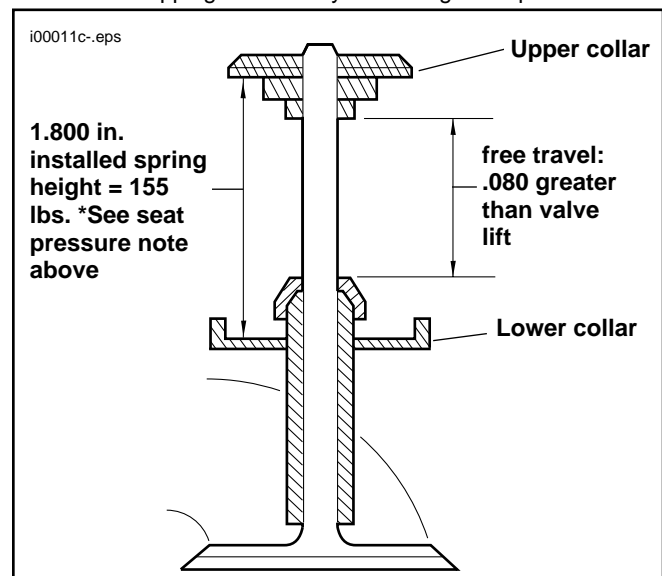

Figure 1. Valve Free Travel Check and Installed Valve Spring Height
- See Figure 1. Install lower valve spring collars, upper collars, and collar keys. Check installed spring height. Add shims (see note below) or remove material from spring seat to reach installed spring height. Remove upper collar keys and upper collars.